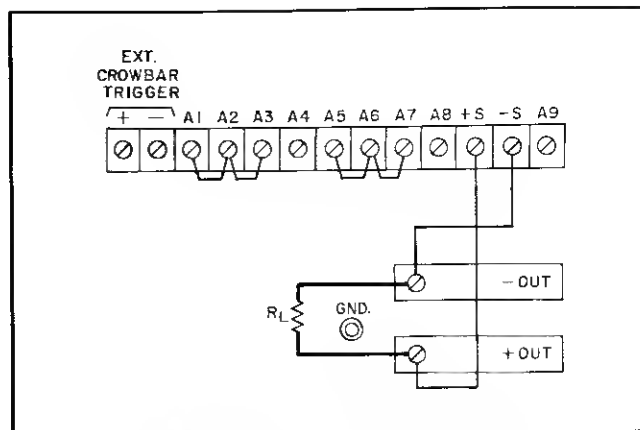

Figure 3-2. Normal Strapping Pattern
a. Turn CURRENT controls (7) and OVERVOLTAGE ADJUST potentiometer (5) fully clockwise and check that rear panel straps are connected as shown in Figure 3-2, but do not connect load  $R_L$ .
c. Set LINE switch or circuit breaker (1) ON and observe that pilot lamp (2) lights.
d. Adjust COARSE and FINE VOLTAGE controls (3) for desired indication on voltmeter (4).
e. Ensure that overvoltage crowbar circuit is operational by slowly turning OVERVOLTAGE ADJUST control (5) counterclockwise with a screwdriver until OVERVOLTAGE lamp (6) lights and voltmeter indication drops to zero volts.
g. To check the constant current circuit, first turn off the supply, connect a short across the output bus bars (see Figure 3-2), and turn it back on.
h. Adjust **COARSE** and **FINE CURRENT** controls ⑦ until ammeter ⑧ indicates desired output current or current limit. (The **VOLTAGE** controls must be set for a greater-than-zero output to obtain the output current programmed.)
3-7 This power supply was shipped with the proper rear panel strapping connections made for constant-voltage/constant-current operation with local sensing and local programming. This strapping pattern is illustrated in Figure 3-2. By means of the front panel voltage and current controls, the operator selects either a constant-voltage or a constant-current output. Whether the supply functions in the constant-voltage or the constant-current mode depends on the settings of the voltage and current controls and on the resistance of the output load. For values of load resistance greater than a critical crossover value equal to the voltage setting divided by the current setting, the supply operates in the constant-voltage mode. With a load resistance smaller than this critical value, it operates in the constant-current mode. The transition occurs automatically; no switches need to be operated or connections changed.
3-28 Because of the unavoidable voltage drop developed in the load leads, the normal strapping pattern shown in Figure 3-2 will not provide the best possible voltage regulation at the load. If, for example, one were to use 4-gauge wire to connect a load that is located only 5 feet from a
*The +S jumper is the one that links the +S terminal to the +OUT terminal when the supply's terminals are strapped for normal operation as shown in Figure 3-2. The -S jumper is the one that links the -S terminal to the -OUT terminal.*